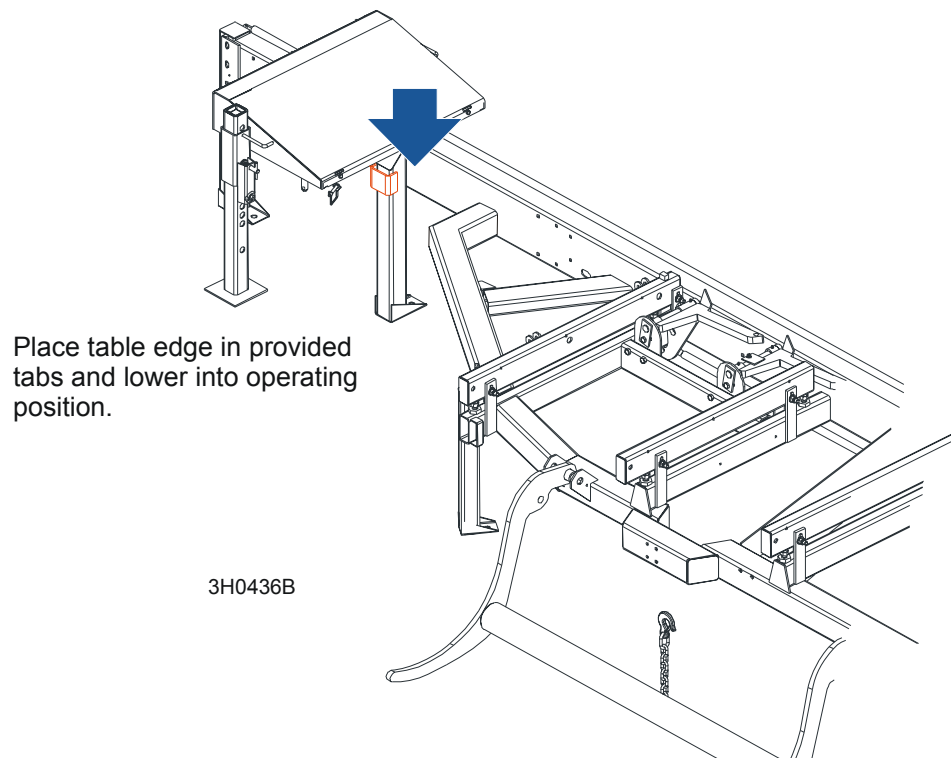

FIG. 2-7
**See Figure 2-7.** Be sure the edge of the table seats in the slot on the bed frame and the table tab seats in the leg bracket. Lower the outrigger and adjust it until it is firmly planted on the ground.